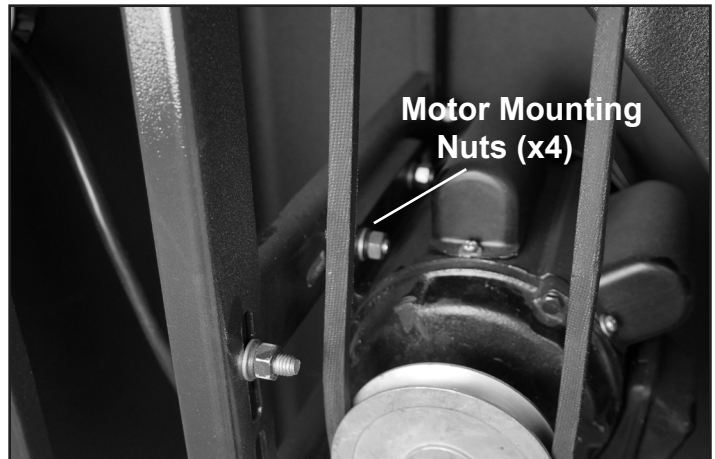

FIG. 5
1. Loosen the four 13mm motor mounting nuts holding the motor onto the inner slide rail. Fig. 5.
3. After the pulleys are properly aligned, tighten the four 13mm mounting nuts holding the motor onto the inner slide rail. Fig. 5.